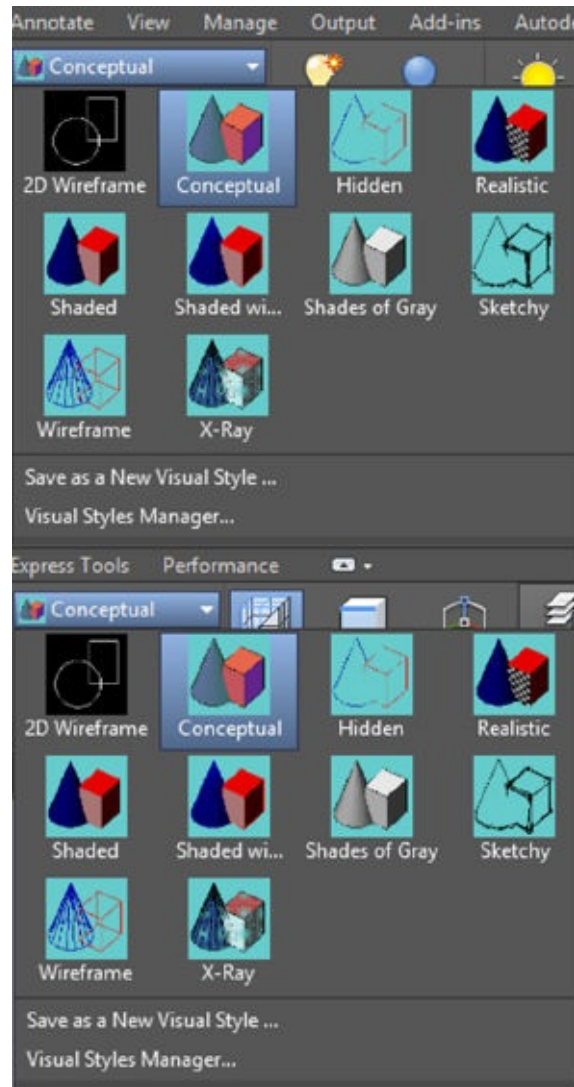

FIGURE 22.44 The Visual Styles panel and the View panel
3. Select Conceptual from the Visual Styles dropdown list in the Visualize tab's Visual Styles panel or the Home tab's View panel (see Figure 22.44).